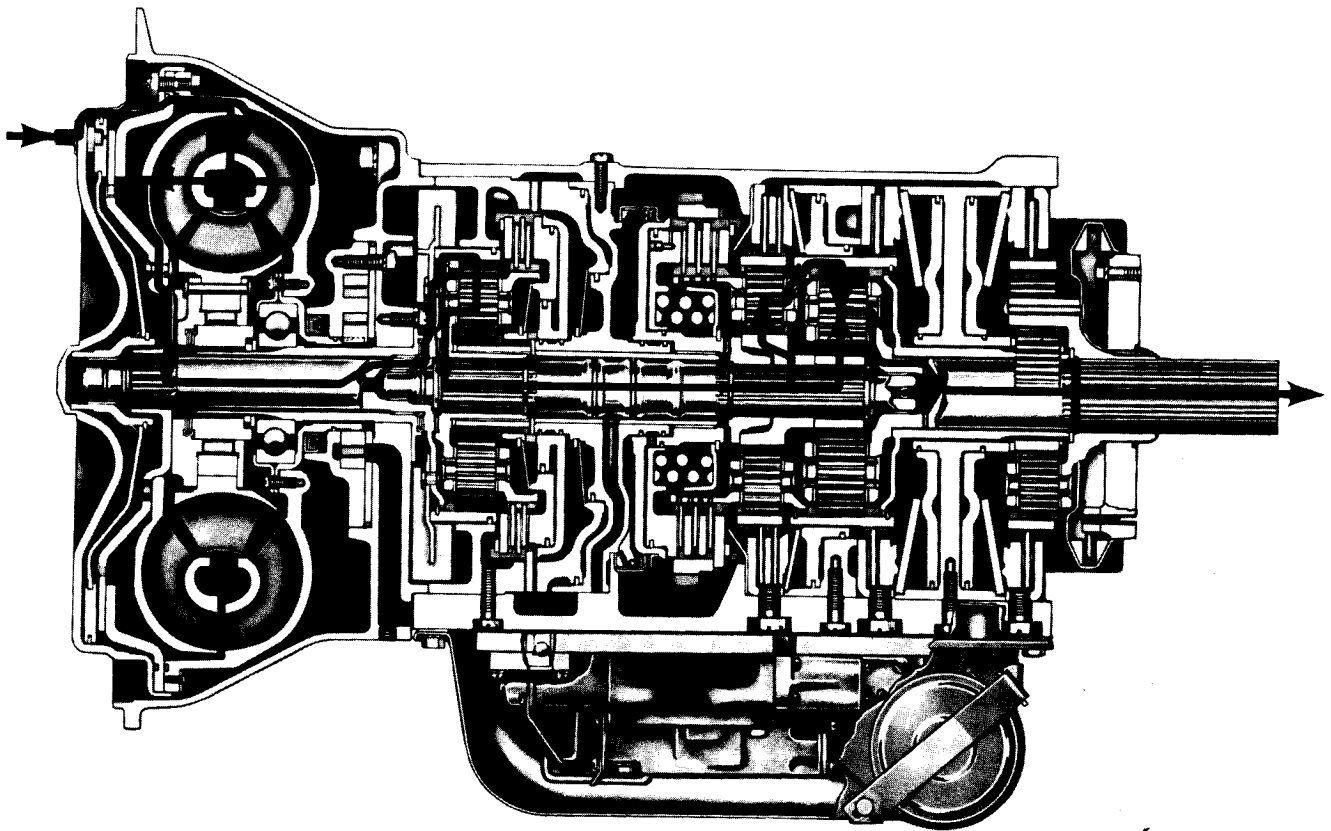

Fig. III-16 Third-gear power flow, converter
a. Third Gear (fig. III-16). In third gear, the splitter system is in low ratio (1.39:1). The splitter output shaft transmits clockwise rotation to the intermediate-range sun gear. The intermediate-range clutch is applied, holding the intermediate-range ring gear sta-